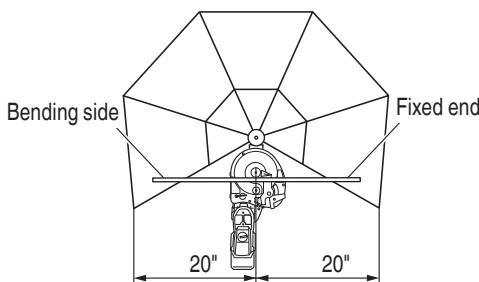

Fig. 50
- (1) Be sure to install the deflection guard when bending a rebar whose bending length and the fixed length are 20" (inside dimension of deflection guard) or less (Fig. 50)